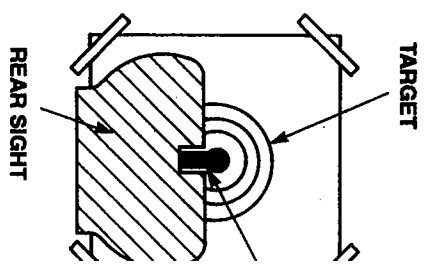

FIG. 5
- The rifle is correctly aimed when the front sight blade is positioned exactly in the notch of the rear sight. The top of the front sight blade should be even with the top of the notch in the rear sight. The bulls-eye should appear to rest on the top of the front sight. (Fig. 5).